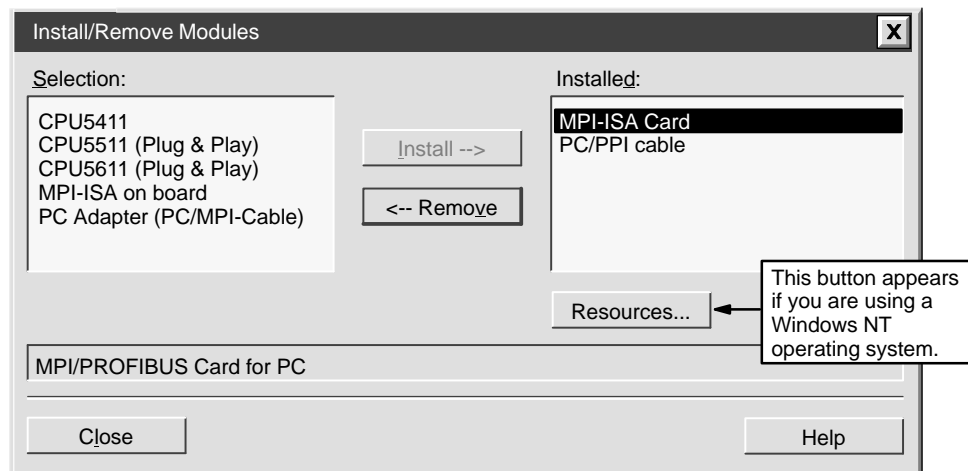

Figure 3-1 Install/Remove Modules Dialog Box
6. At the end of the installation, the Install/Remove Modules dialog box appears automatically. See Figure 3-1. You can install the hardware for your machine to communicate now (see Section 3.2), or you can wait until later (see Section 3.3).
If you are using Windows 95 or Windows NT 4.0, the Install/Remove Modules dialog box appears automatically at the end of your software installation. See Figure 3-1. If you are using Windows 3.1, follow these steps:
3. Click the "Install..." button. The Install/Remove Modules dialog box appears. See Figure 3-1.
On the left side of the Install/Remove Modules dialog box is a list of hardware types that you have not installed yet (see Figure 3-1). On the right side is a list of currently installed hardware types. If you are using the Windows NT 4.0 operating system, there is a "Resources" button under the Installed list box.